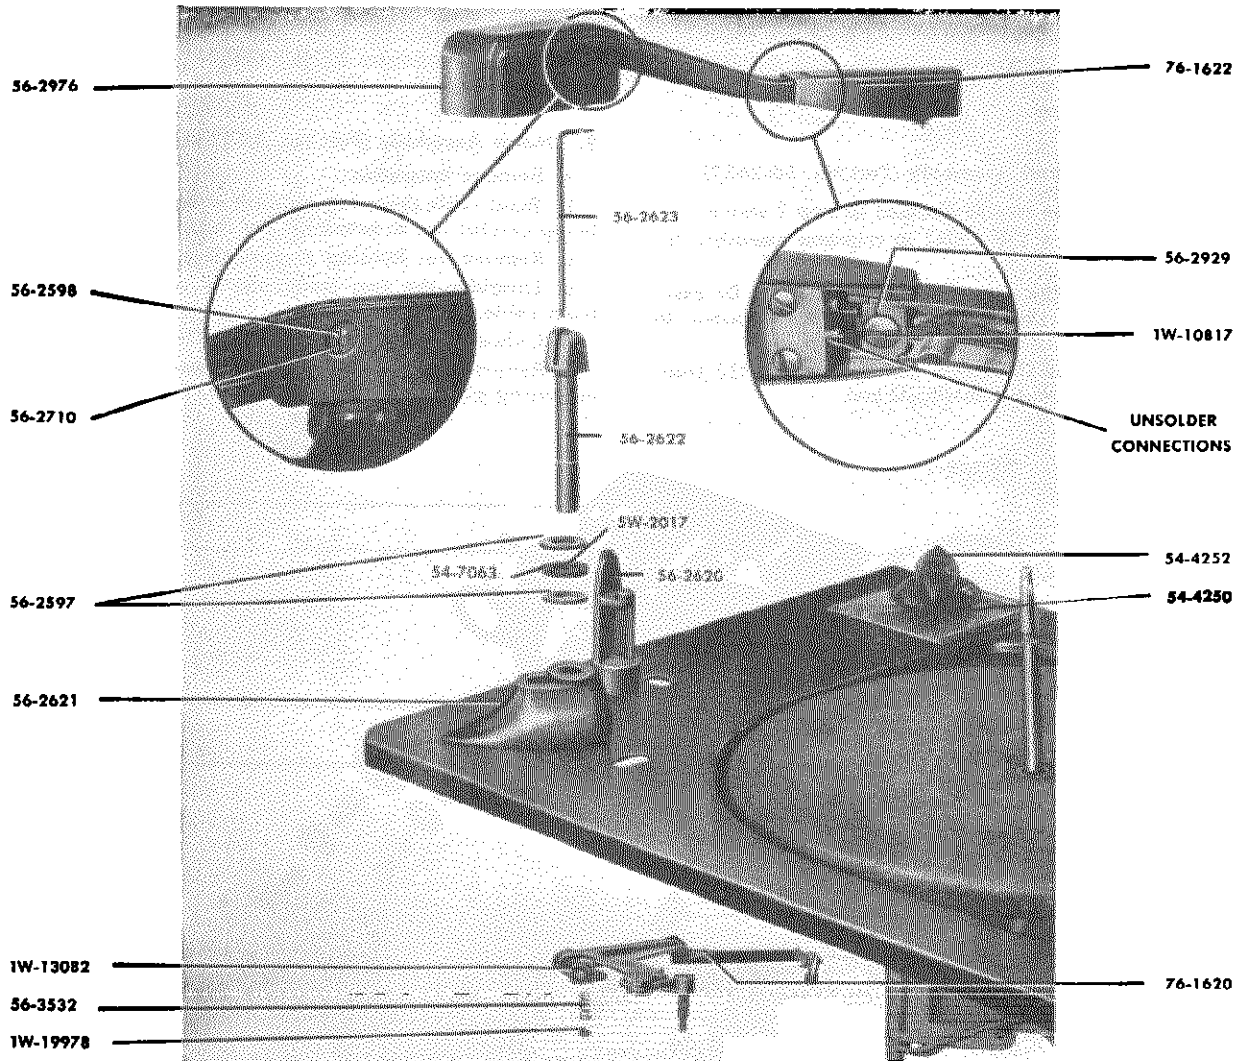

Figure 22—TONE-ARM-SHAFT AND TRIP-ARM ASSEMBLIES, EXPLODED VIEW.
- b. Lift off knob 54-4252, figure 22.